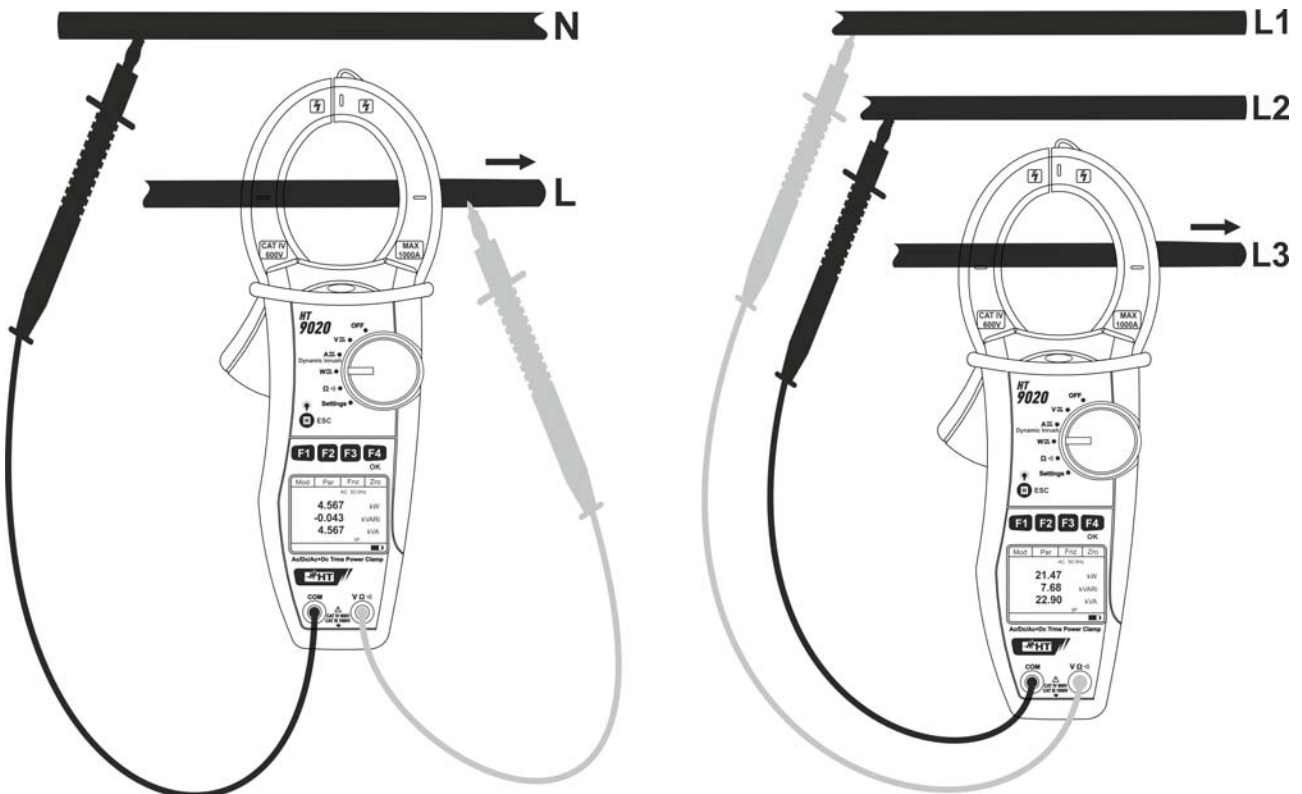

Fig. 12: AC/AC+DC power measure on Single phase and balanced Three phase systems
5. Connect red cable to input lead **VΩ(i)** and black cable to input lead **COM** then perform the connection as indicated in Fig. 12 depending on the type of system under test. Put the phase cable into the clamp jaws respecting the direction of current indicated by the arrow (see Fig. 12). Connect the cable to the middle of the clamp jaws, in order to get accurate measurements. Use the marks as a reference (see Fig. 2)